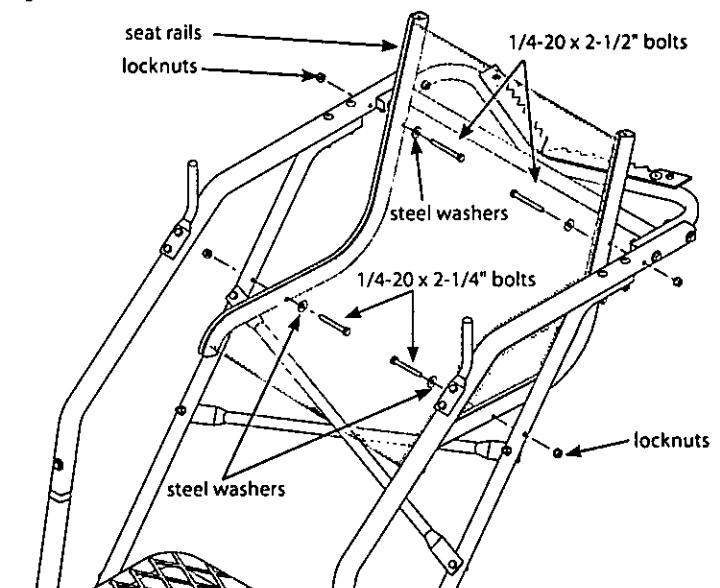

Figure 7
SEE FIGURE 7. It is important to have the bolt head on the seat rail side and the locknut on the main side rail side for ease of assembly. **FINGER TIGHTEN THESE TWO BOLTS ONLY AT THIS TIME.**
b. Using (2) provided 1/4-20 x 2-1/4" bolts, locknuts and steel washers, attach the lower portion of each seat rail to the upper ladder support tubes. **SEE FIGURE 7.** It is important to have the bolt head on the seat rail side and the locknut on the upper ladder support tube side for ease of assembly.